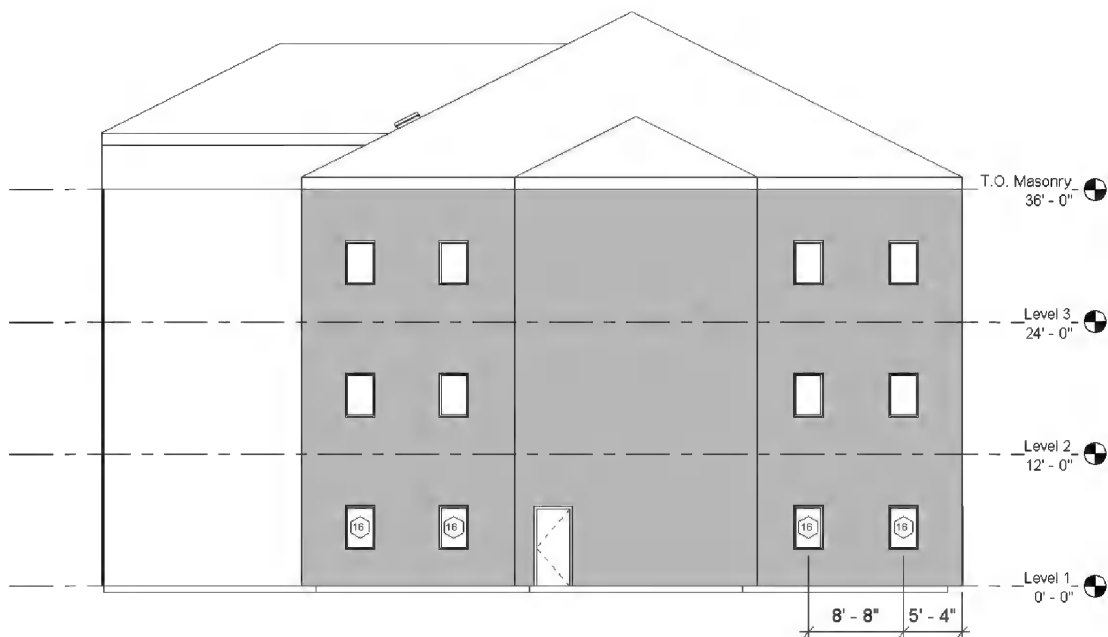

FIGURE 8-2.3 East elevation – windows added
- Add windows as shown in Figure 8-2.3.